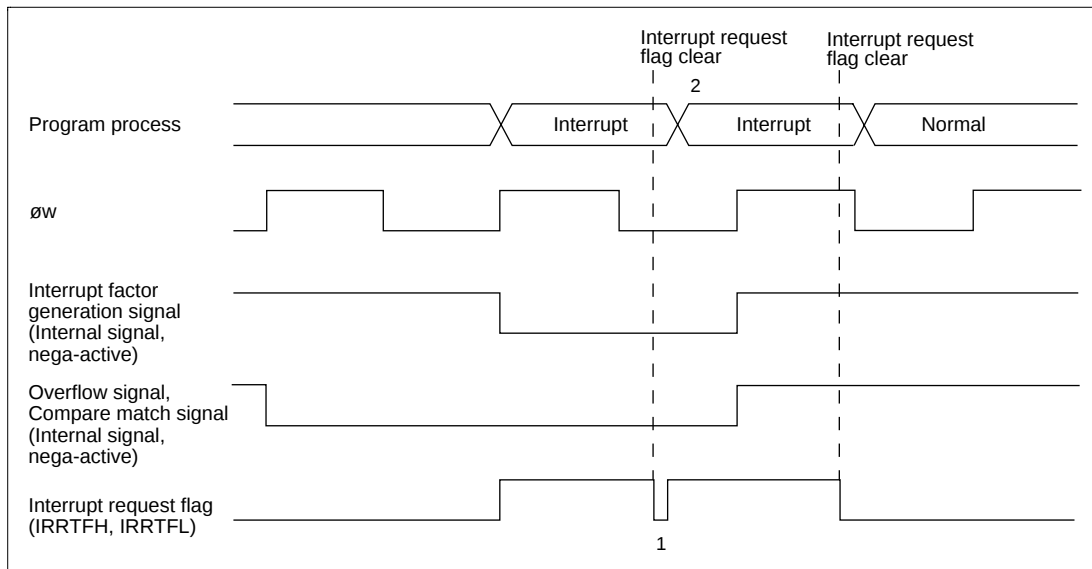

Figure 9.6 Clear Interrupt Request Flag when Interrupt Factor Generation Signal is Valid
When $\phi w/4$ is selected as the internal clock, “Interrupt factor generation signal” will be operated with ϕw and the signal will be outputted with ϕw width. And, “Overflow signal” and “Compare match signal” are controlled with 2 cycles of ϕw signals. Those signals are outputted with 2 cycles width of ϕw (figure 9.6)
In active (high-speed, medium-speed) mode, even if you cleared interrupt request flag during the term of validity of “Interrupt factor generation signal”, same interrupt request flag is set. (figure 9.6 1) And, you cannot be cleared timer overflow flag and compare match flag during the term of validity of “Overflow signal” and “Compare match signal”.
For interrupt request flag is set right after interrupt request is cleared, interrupt process to one time timer FH, timer FL interrupt might be repeated. (figure 9.6 2) Therefore, to definitely clear interrupt request flag in active (high-speed, medium-speed) mode, clear should be processed after the time that calculated with below (1) formula. And, to definitely clear timer overflow flag and compare match flag, clear should be processed after read timer control status register F (TCSRF) after the time that calculated with below (1) formula. For ST of (1) formula, please substitute the longest number of execution states in used instruction. (10 states of RTE instruction when MULXU, DIVXU instruction is not used, 14 states when MULXU, DIVXU instruction is used) In subactive mode, there are not limitation for interrupt request flag, timer overflow flag, and compare match flag clear.